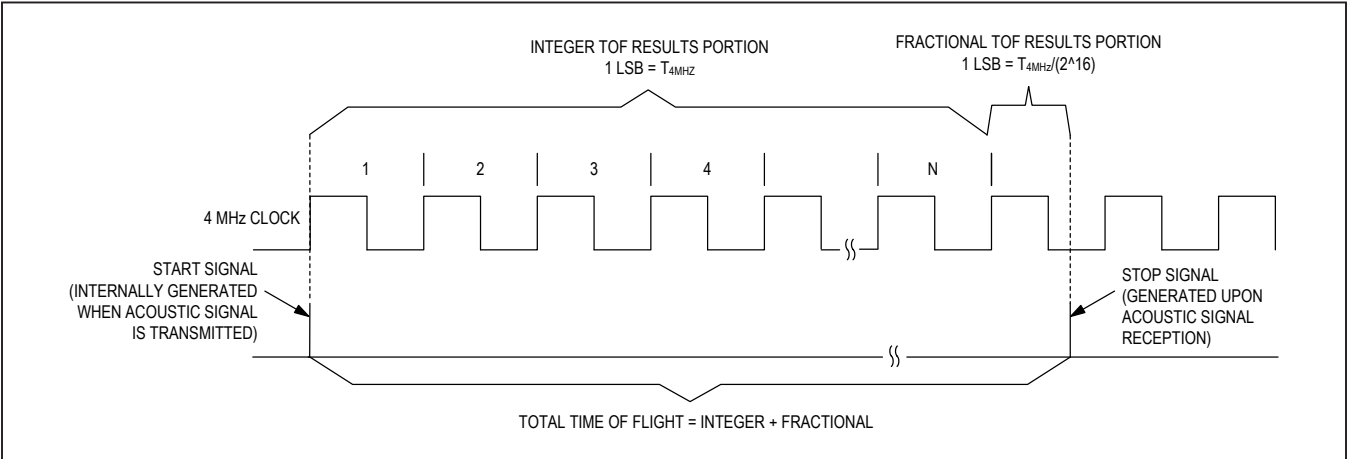

Figure 4. Start/Stop for Time-to-Digital Timing
- 3) The pulse launcher drives the appropriate TX pins with a programmable sequence of pulses. The number of pulses launched is set by the PL[7:0] bits in the TOF1 register. The frequency of these 50% duty-cycle pulses is set by the DPL[3:0] bits, also in the TOF1 register. The start of these launch pulses generates a start signal for the Time-to-Digital Converter (TDC) and is considered to be time zero for the TOF measurement. This is denoted in Figure 4.
The computation of the total time of flight is performed by counting the number of full and fractional 4MHz clock cycles that elapsed between the launch start and a hit stop as shown in Figure 4.